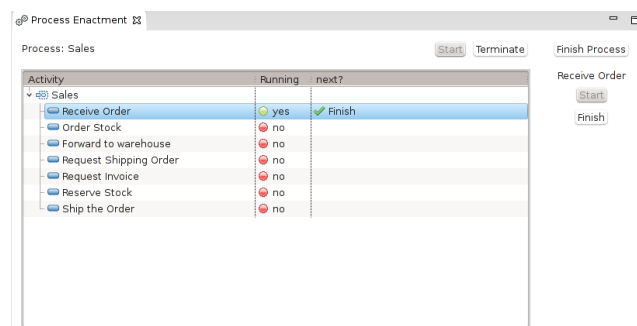

Figure 17 Enactment view - Running *Receive order* activity
2. We start with executing the first activity i.e. *Receive order*. This activity can either be selected from diagram or from the process enactment view. Once the activity is selected, the start button above the table on the right can be used to start its execution. During the execution of the activity, we can see that it is running from the `process enactment view`. The running state of the activity is enabled in the table. (see Figure 17 Enactment view - Running *Receive order* activity)